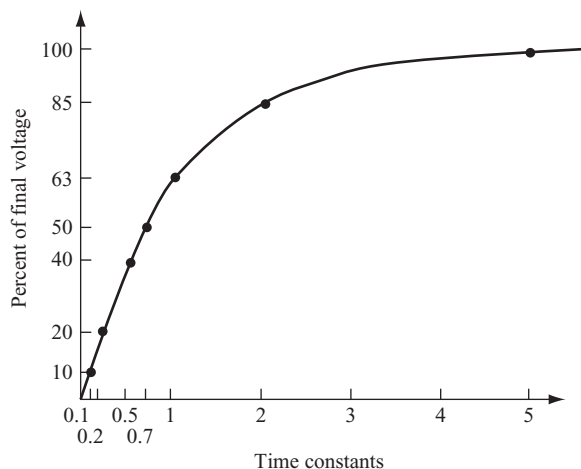

FIGURE 1.16
**37** The *capacitor charging graph* in Figure 1.16 shows how many time constants a voltage must be applied to a capacitor before it reaches a given percentage of the applied voltage.